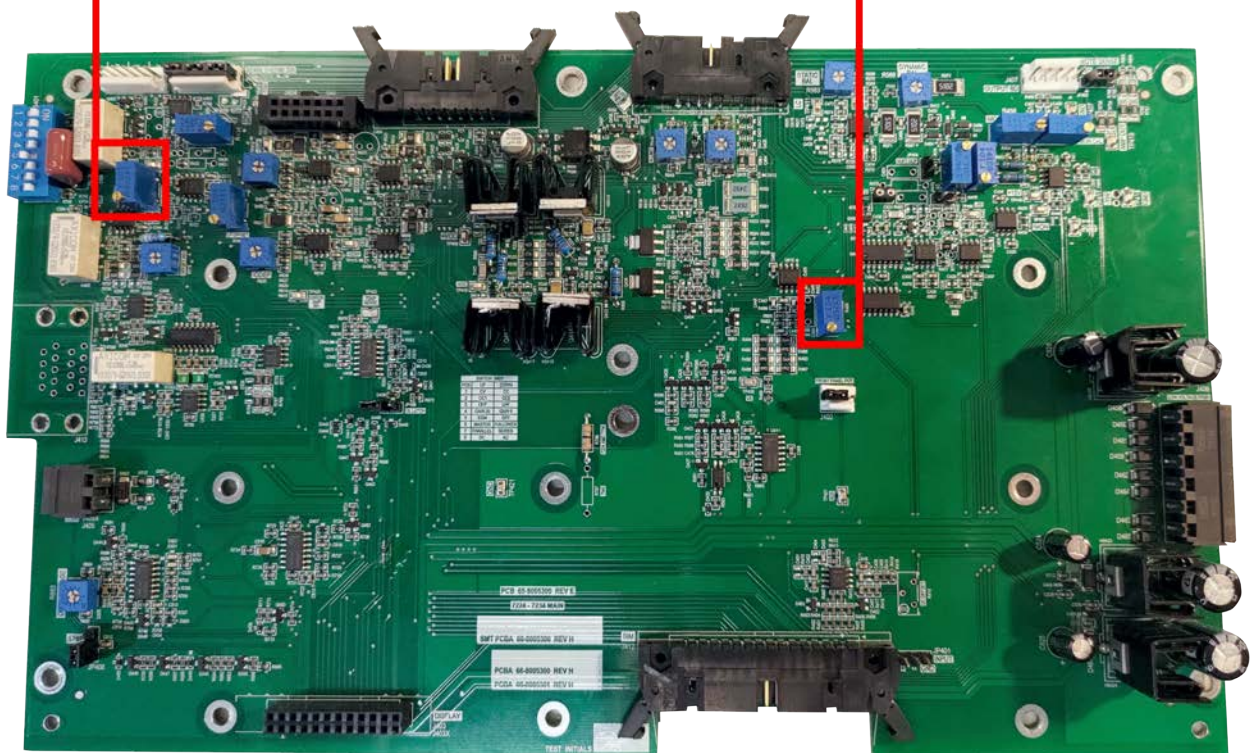

Figure 5.22 – Locations for Balancing Controls on the Main Board
1. Power down all amplifiers. On each amplifier main board, locate the **Offset Adjust** potentiometer (see **Figure 5.22**).
- On the main board of each amplifier, locate the Gain Trim potentiometer (see **Figure 5.22**).